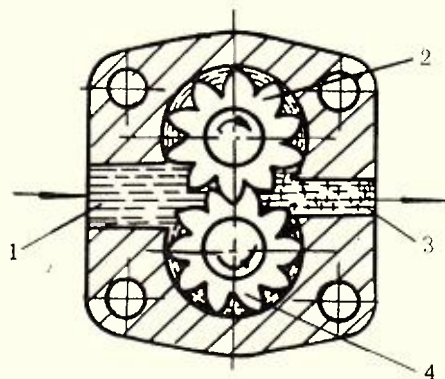

Fig. 16 - 11 Working principle of hydraulic pump
(3) Hydraulic pump operating mechanism (as shown in Fig. 16 - 12) consists of lever 1, small lever 2 and finger fork head 8, etc, and it is installed on the side of the rear axle housing. In operation, when putting the handle 1 forward to the engaging position and moving the gear 5 (as shown in Fig. 16 - 2) by means of the finger fork head 8, the sliding gear 5 will engage with the driving gear 26. At this time, the power is transmitted by the auxiliary clutch through the driving shaft and the engaging gears to the hydraulic pump to make it work.